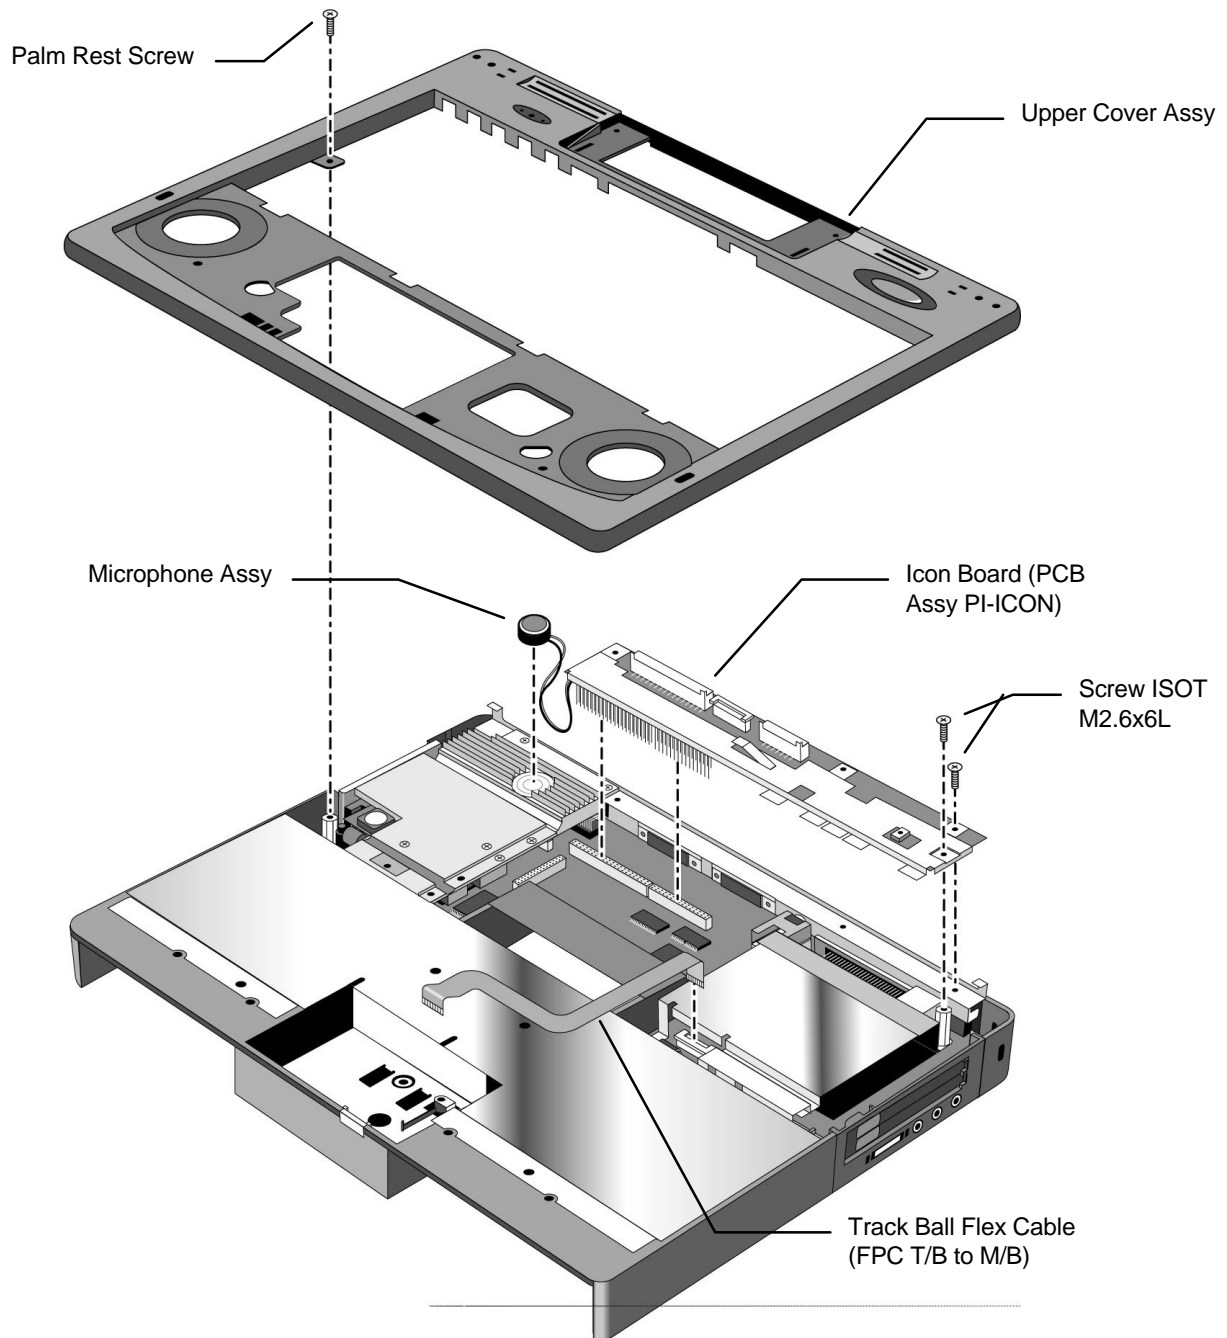

Figure 11 - Upper Cover and Icon Board
6. Disconnect the Track Ball Flex Cable (FTB T/B to M/B) (see Figure 11).